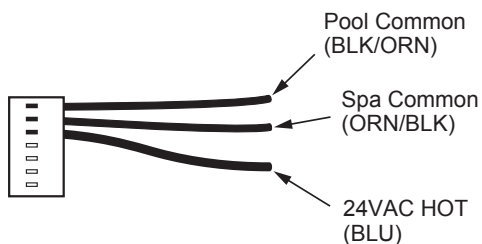

Figure 40. 7-Pin Remote Interface Harness
5. On the "Remote Interface Harness", connect the BLUE wire to one side of the "REMOTE" switch and connect the other side to either the ORANGE/BLACK wire for "SPA" operation or the BLACK/ORANGE wire for "POOL" operation. See **Figure 40**.
4. On the "Remote Interface Harness" connect the BLUE wire to one side of the "REMOTE" switch and connect the ORANGE/BLACK wire for "SPA" operation and the BLACK/ORANGE wire for the "POOL" operation. See **Figure 40**.